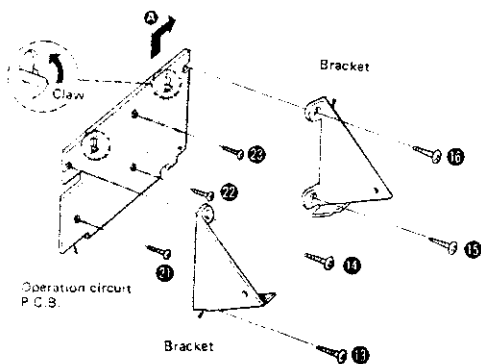

Fig. 3
3. Remove the 3 setscrews (Fig. 3 : ⑬ ~ ⑮) of the printed circuit board.
4. Loosen 2 claws upward to remove them from the printed board. (Fig. 3)
5. Remove the printed circuit board in the direction of the arrow A. (Fig. 3)